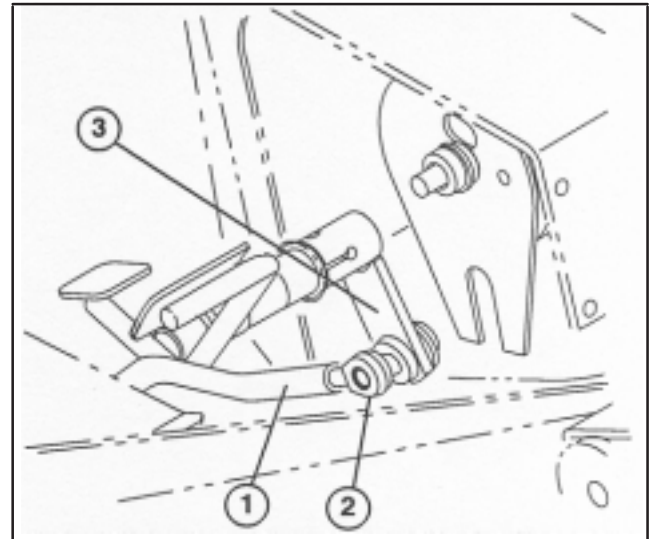

Figure 2
7. Remove capscrew, (2) washers and locknut securing traction linkage rod ball joint to traction linkage lever (Fig. 2).
8. Remove bushing from lever (Fig. 2).